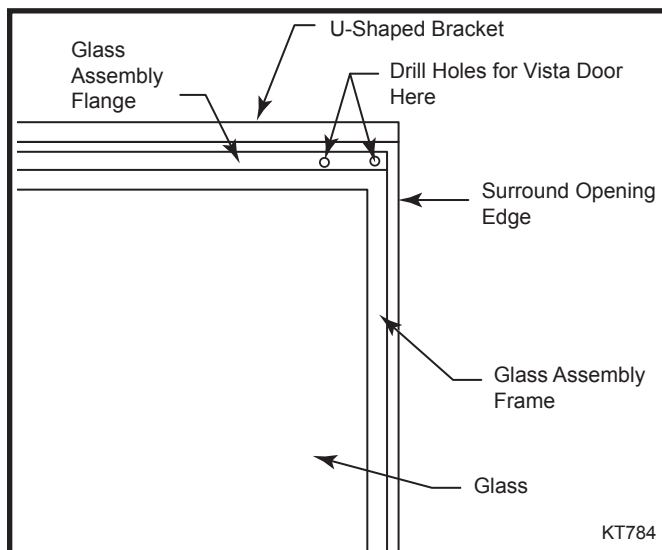

Fig. 27 Vista door top hole locations.
4. For window frames not having pre-drilled holes: Align the short brackets so the edge of the bracket is exactly aligned with the side edge of the fireplace window's top flange, as shown in Figure 27. Mark the location of the holes using a pencil mark through the bracket holes. Drill 1/8" holes at each of the four (4) locations. Mount brackets using four (4) sheet metal screws.
7. Slide the Vista door assembly over the fireplace window frame aligning the four (4) holes with the four (4) brackets.
8. Using the machine screws, attach the Vista door to the four (4) brackets. Do not overtighten.